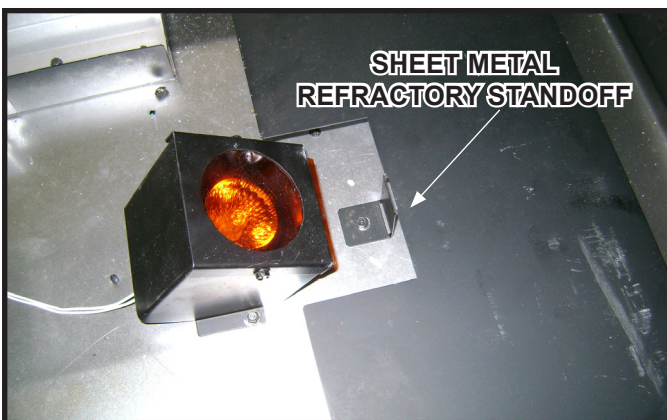

Figure 11.13 Accent Light Bulb Installation Completed
1. Remove the screw that secures the two bottom sheet metal refractory standoffs that are installed around the left and right accent light assemblies. See Figure 11.13.
4. Reinstall the two bottom sheet metal refractory stand-offs with one screw each. See Figure 11.13.